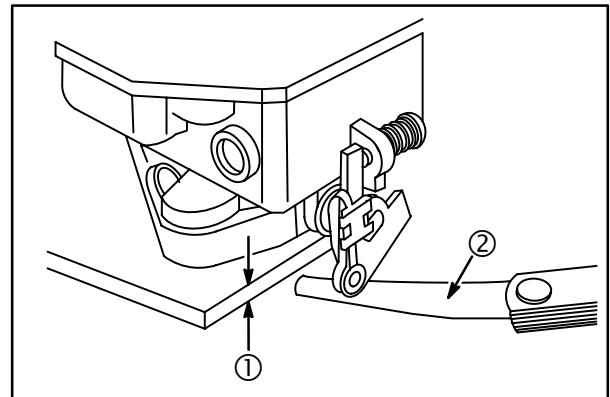

Fig. 96
1. Lay carburetor on **1/8" (3 mm)** raised flat surface (1). Use a feeler gauge (2) to check throttle and choke shaft clearance as shown in **Fig. 96**.